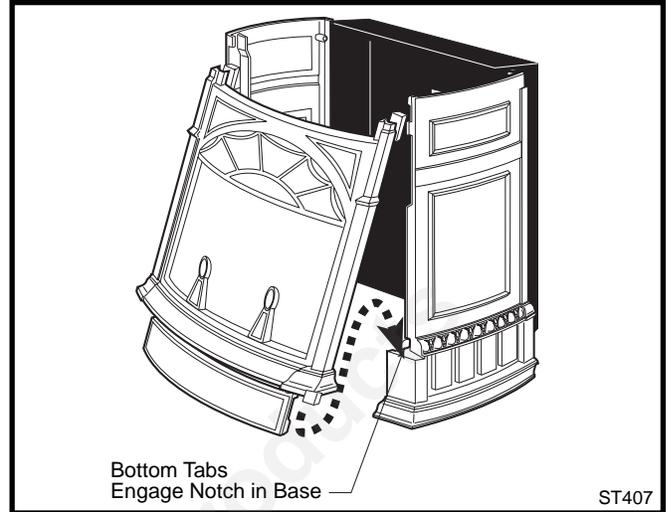

Fig. 49 Install Stove Front.
1. Grasp the Front Plate and lift it into position, engaging the two steel tabs at the upper corners behind the adjacent bosses in the Side Plates. (Fig. 49) Seat the Front against the Sides so that the tabs at the bottom lip engage with the notches in the edge of the stove base.